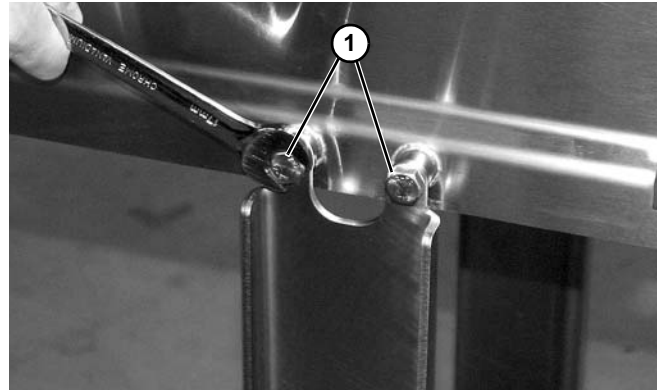

Figure 105
6. Remove two screws (**Figure 105, item 1**) securing the stand brackets from one side of the conveyor.